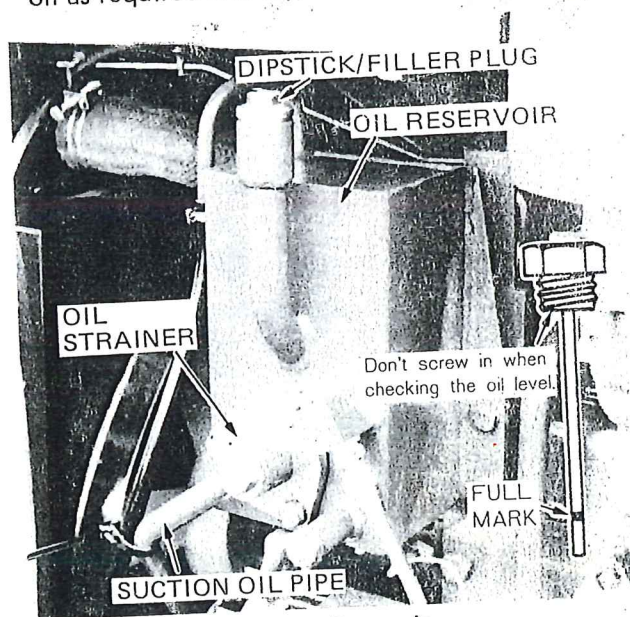

Figure 49 — Power Steering Reservoir
1. With the tractor standing level, and the wheel in the straight-ahead position, check the oil level, Figure 49.
4. Stop the engine and recheck the oil level. Add oil as required and repeat item 3.